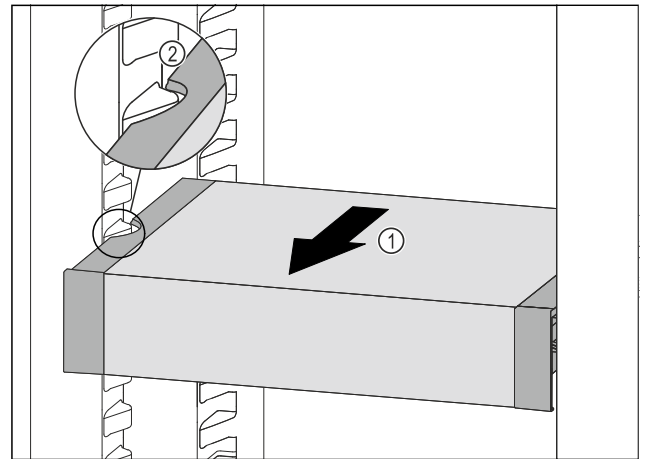

Fig. 157
- ▶ Pull VarioSafe forwards *Fig. 157 (1)* until the recesses in the side of the VarioSafe are at the level of the support rib in the fridge section. *Fig. 157 (2)*